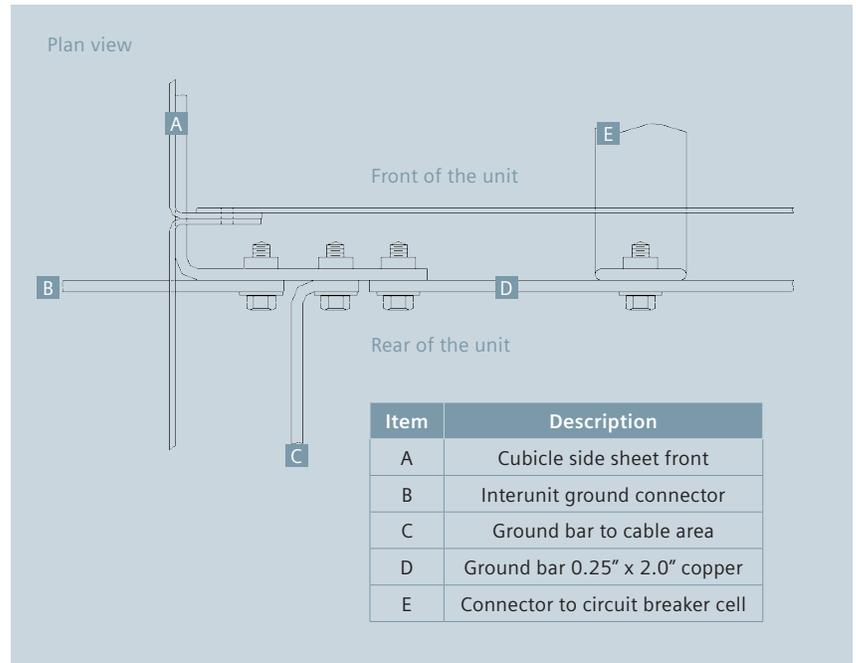

Figure 28: Ground bus connection
9. Connect ground bus (refer to Figure 28: Ground bus connection on page 39). Insert bar in side wall opening to overlap the ground bus in adjacent cubicles.
The ground bus extending through the switchgear is accessible in the primary cable area of each unit. The interunit connector has provisions for two bolts at each end. For ease of assembly, install bottom bolts first. Verify that the ground bar to the circuit breaker cell is also bolted to interunit bar, as shown in Figure 28: Ground bus connection.